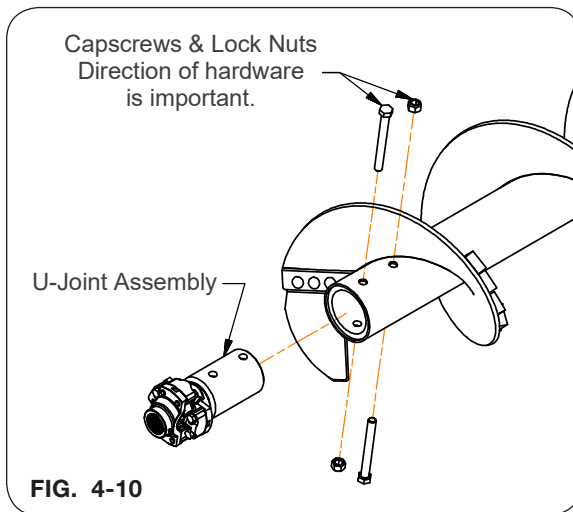

FIG. 4-10
5. Attach the u-joint assembly to the lower auger flighting by placing 3/4"-10UNC x 7 1/2" capscrews (9008114) and 3/4"-10UNC lock nuts (9802) into the auger from opposite directions as shown in FIG. 4-10.